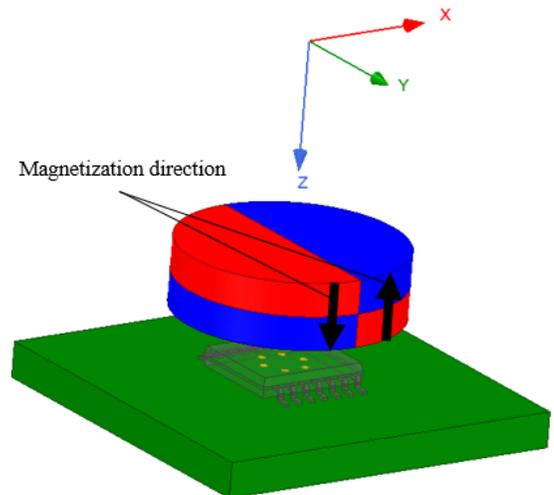

Figure 4: Isometric view of the A33022 and the cylinder magnet with four-pole axial magnetization
- Four-pole ring, cylinder, or block magnet with magnetization parallel to the axis of rotation (Figure 4).